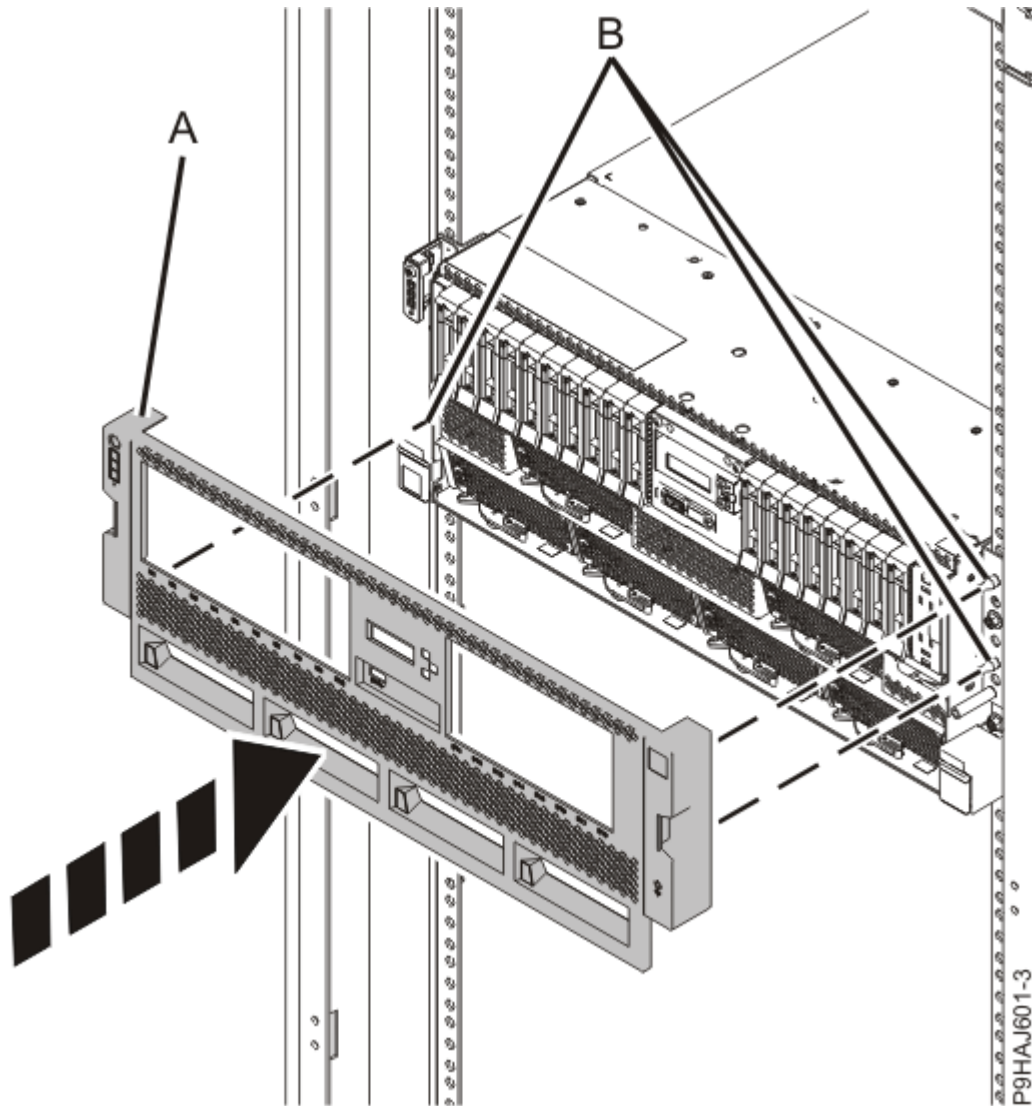

Figure 133. Installing the front cover
8. For a rack-mounted system, gently push the front cover **(A)** in until the cover snaps into place. The cover has indentations where you can hold it more easily. Use the alignment pins **(B)** to secure the cover to the system as shown in Figure 133 on page 134.